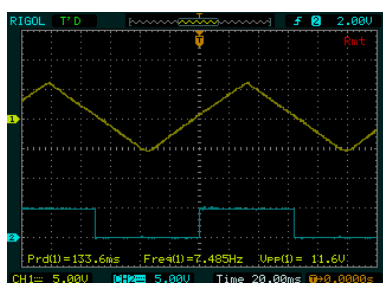

Figure 21.  $\leq 10\text{Hz}$  Triangle
20. Verify the minimum and maximum frequency of each waveform on each of the remaining FG range settings. You should observe the waveforms are shown in Figures 21 through 50. Adjust the oscilloscope setting as indicated as you progress through the ranges.